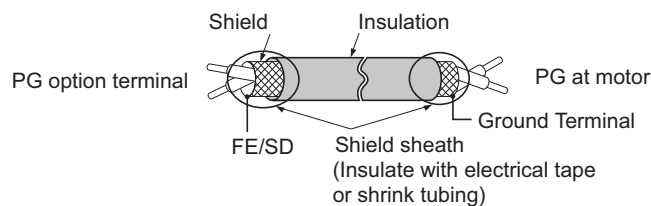
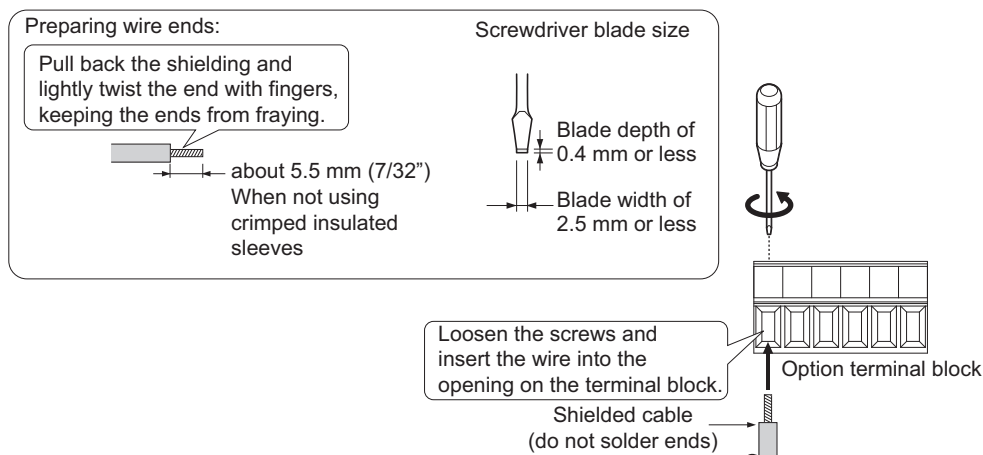

Figure 8.6 Preparing Ends of Shielded Cable
Figure 8.7 Preparing and Connecting Cable Wiring
- There are two screw holes on the drive for use as ground terminals (I). When connecting three options, two ground wires will need to share the same drive ground terminal.
- Prepare and connect the wire ends as shown in Figure 8.6 and Figure 8.7. Refer to Wire Gauges and Tightening Torques on page 422 to confirm that the proper tightening torque is applied to each terminal. Take particular precaution to ensure that each wire is properly connected and wire insulation is not accidentally pinched into electrical terminals.